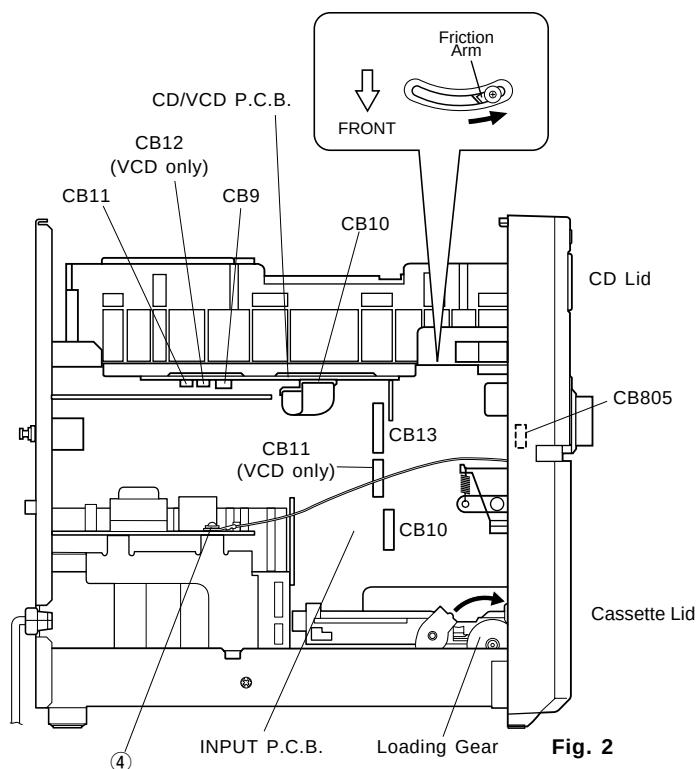
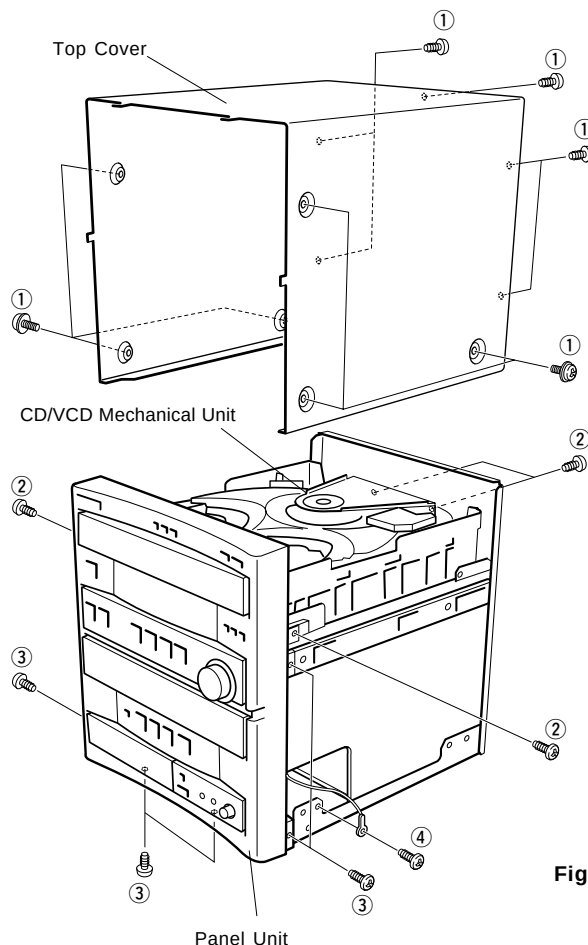

Fig. 2
Fig. 1
Remove 11 screws (①) in Fig. 1.
- Push the Friction Arm (the bottom side of the CD/VCD Mechanical Unit) with a finger as shown in Fig. 2.
- Pull the Tray forward approx. 5cm (2") and remove the CD Lid in Fig. 2.
- Disconnect the Flat Connecting Cables (CB10) on the CD/VCD P.C.B. and remove 3 connectors (CB11 , CB12 and CB9) on the CD/VCD P.C.B. in Fig. 2.
- Remove 4 screws (②) and then remove the CD Mechanical Unit in Fig. 1.
- Rotate the Loading Gear, then open the Tray and remove the Cassette Lid in Fig. 2.
- Disconnect the flat connecting cables (CB10, CB13 and CB11) on the INPUT P.C.B. and remove a connector (CB805) in Fig. 2.
- Remove 5 screws (③) and 2 screws (④), and then remove the Panel Unit in Fig. 1 and Fig. 2.
- Connect the flat connecting cables (CB10, CB13 and CB11) and remove a connector (CB805) in Fig. 2.